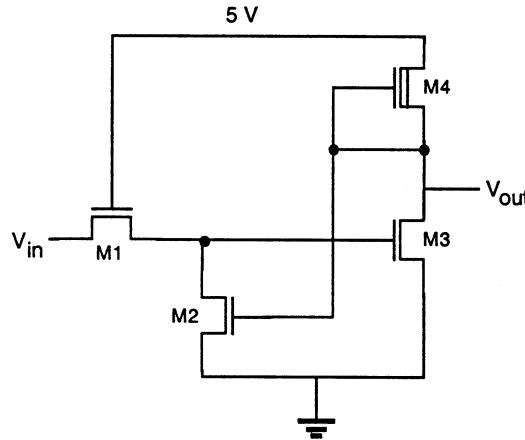

Figure P8.5
- 8.5** Shown in Fig. P8.5 is an nMOS Schmitt trigger. Draw the voltage transfer characteristic. Include values for all important points on the graph. Use parameters in Problem 8.4 and  $\lambda=0$ . W/L ratios for the transistors are given below.